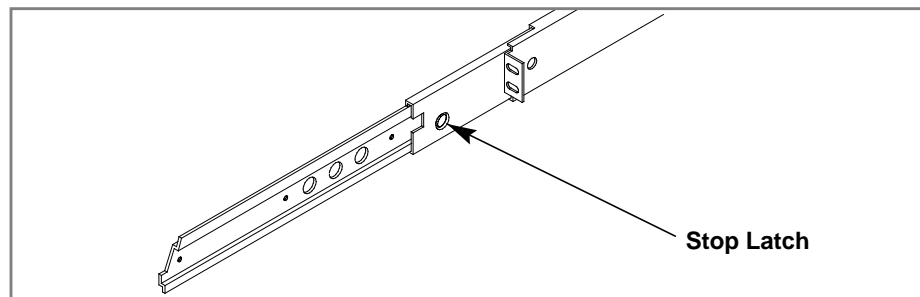

Figure 2-5. Rack Slide Stop Latch
1. Pull the slide-out section to the fully extended position. See Figure 2-5.